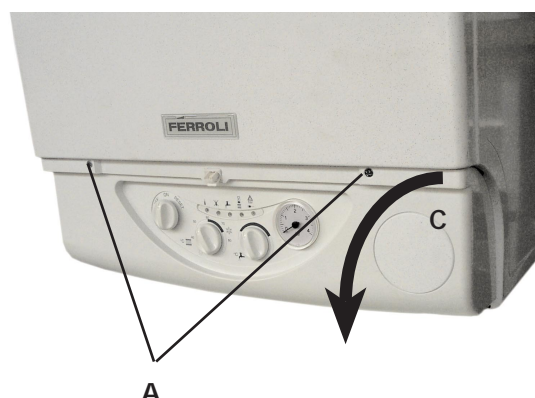

Fig. 31
7.03 To lower the control panel (fig. 31)
- Remove the two fixing screw (fig. 31) "A"